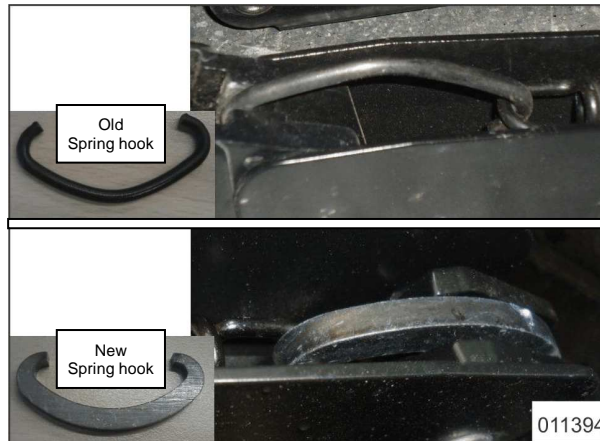

Figure 1
- Old and new wiper arms can be identified by the spring hook design located on the inside of the lower part of the arm as shown in Figure 1.